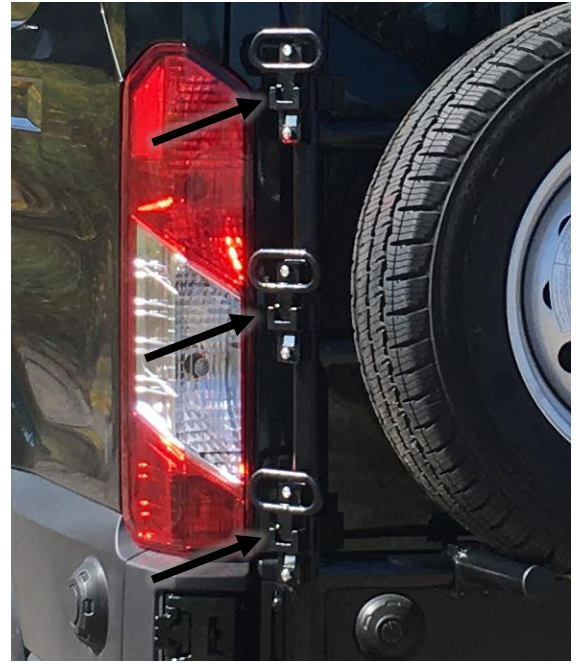

Figure 7: Step Mounting Locations
11. Bolt the fold-down step on the outside rail of the ladder in desired locations. Reference Figures 7.